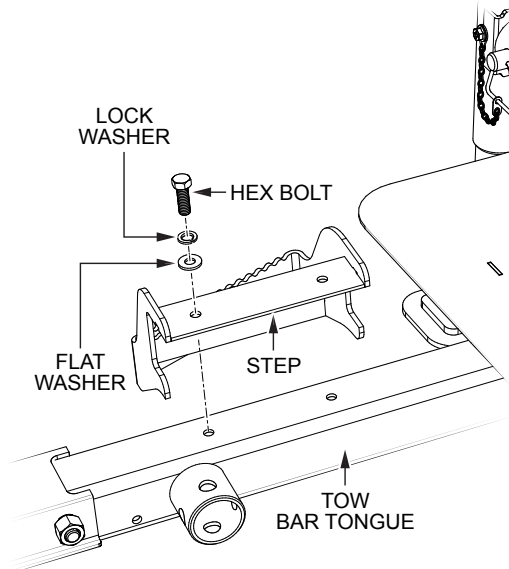

Figure 5. Remove Tow Bar Step
1. Remove the bolts and washers that secure the **tow bar step** to the tow bar tongue (Figure 5).